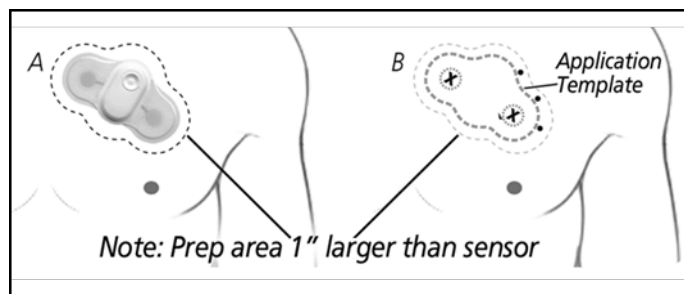

Figure 3.3. Using the Application Template to position the Sensor.
1. Determine the placement location using the Application Template. Prepare an area 1 inch larger than the Sensor (see below Figure 3.3). This allows for slight movement of the Sensor over the monitoring period. Shave or clip hair in the application area if needed. Dry shaving may irritate the skin and induce itchiness during the wearing and should be avoided. Open the Skin Prep Materials from the pouch and prepare the skin with alcohol to remove skin oil or lotions. Allow the area to dry for at least 30 seconds.
2. Place the Application Template against the skin in the desired placement area as illustrated in Figure 3.3. Use a pen to mark the skin. X's to mark electrodes (holes) and dots or a short line to mark the border of the sensor where indicated on the template. Discard Application Template.